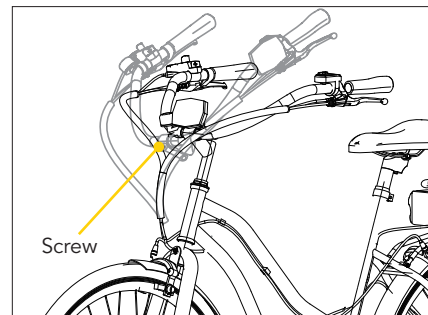

Fig. 4
- Step 4.** Check it again to make sure the handlebar stem is in line with the top tube, then use the wrench to tighten the screw and fix the handlebar stem in place (Fig. 4).